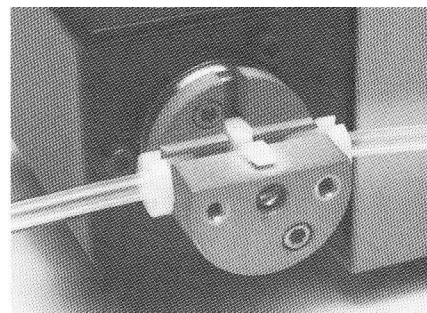

Figure 30
5. Actuate pinch valve and insert irrigation tubing. See Figure 30.